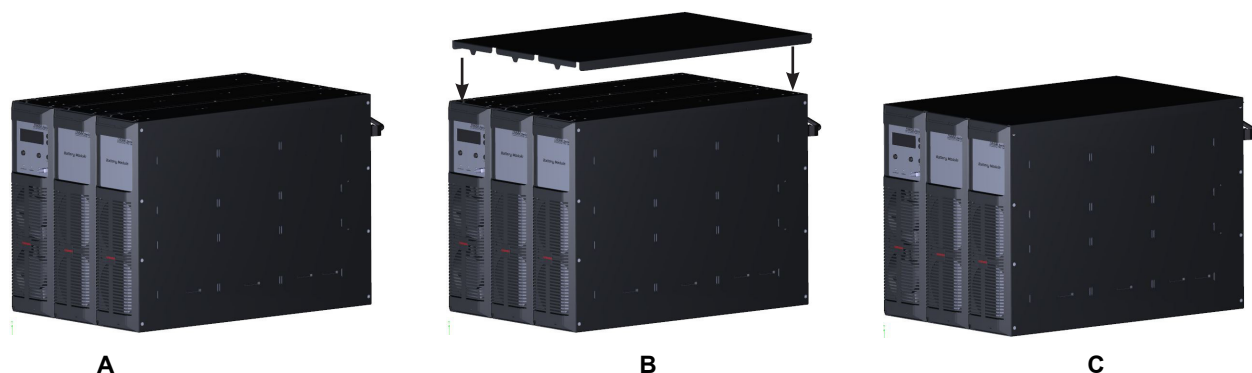

FIGURE 2: INSTALL CAP ON THREE MODULE TOWER SYSTEM
1. Unpack the T1000 modules and set them in the desired location with the faceplates at the top as shown below. (Figure 2-A)
5. Press the T1000 Tower Cap over the tower modules (Figure 2-B).